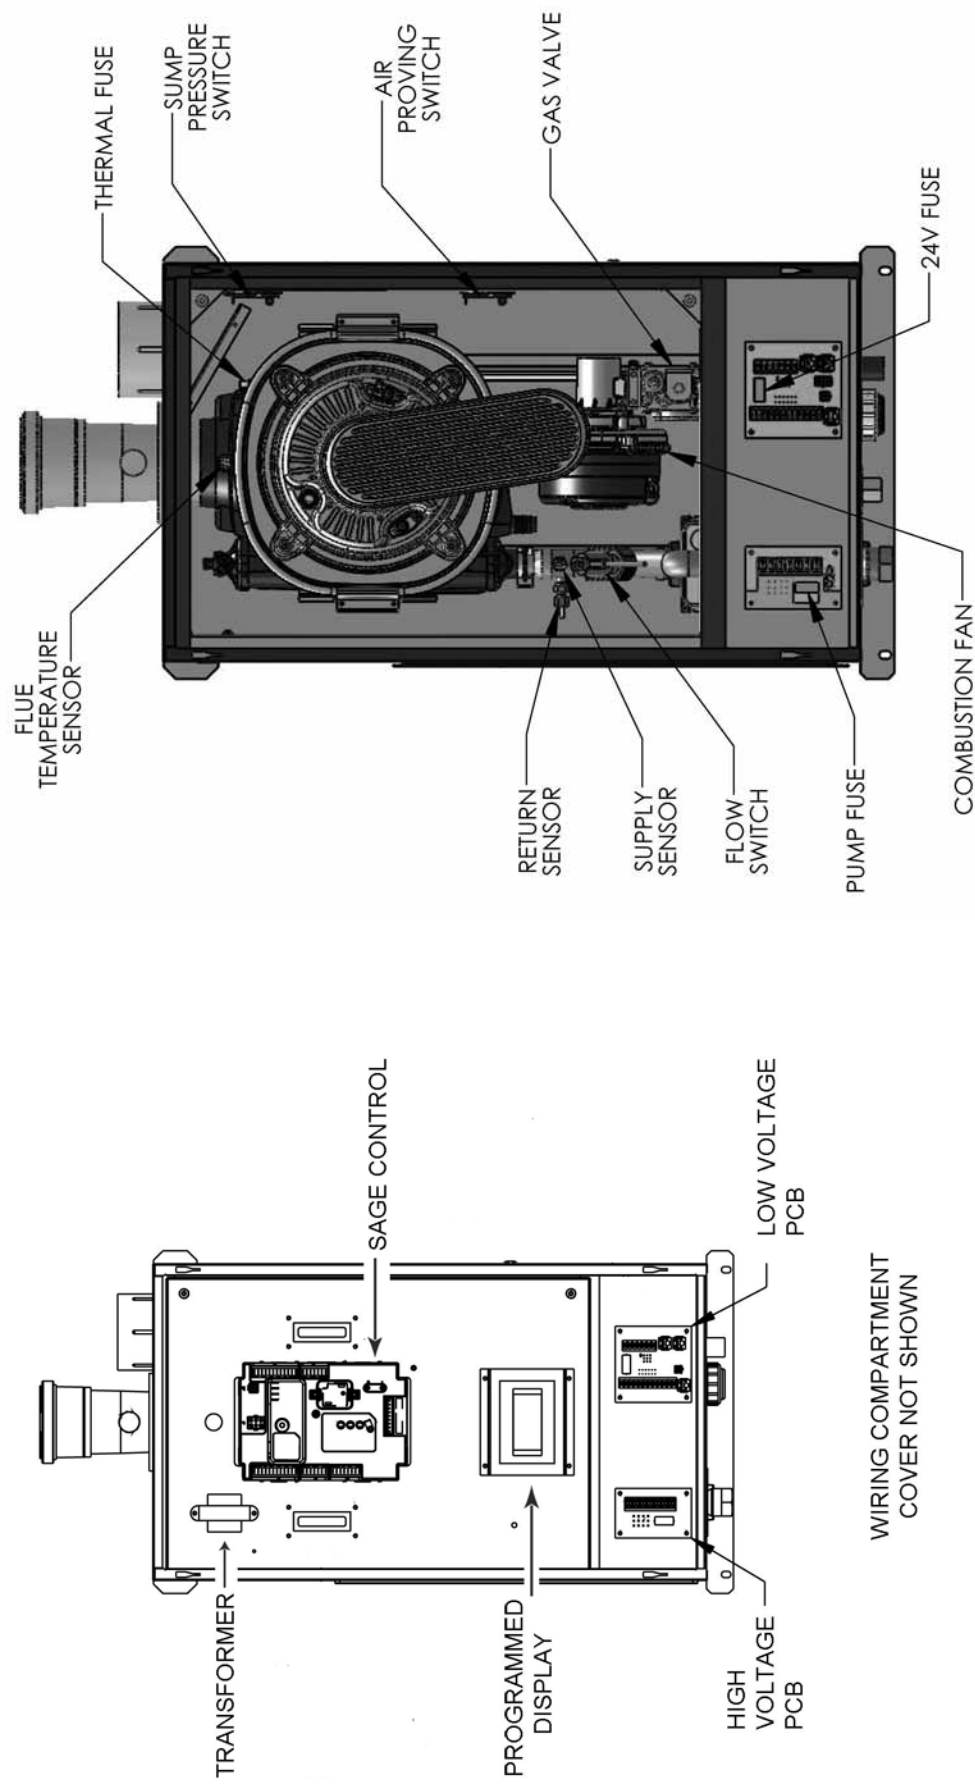

Figure 1: Control Locations (shown with optional concentric vent collar)
2. **Instructions to safely operate** and shut down this boiler are shown in Figure 2 on page 5, as well as on a label affixed to the boiler. Control locations shown in Figure 1.